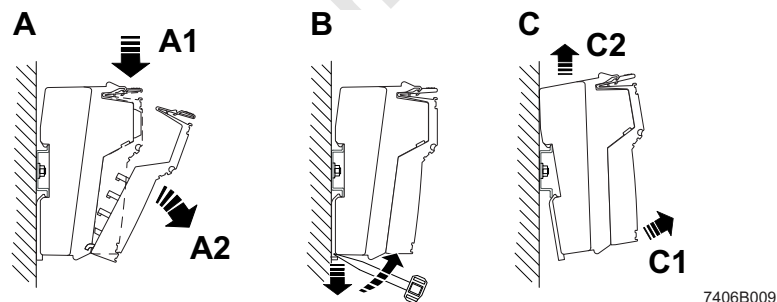

Figure 2-9 Removing the ILC 150 VLC.
- Lever up each connector by pressing on the back connector shaft latching (Figure 2-9, A1).
- Remove the connectors (Figure 2-9, A2).
3. Lever up each connector by pressing on the back connector shaft latching (Figure 2-9, detail A1).
- c. Remove the connectors using the procedure shown in Figure 2-9, detail A2.
4. Insert a tool in the base latches of the Inline Controller, one after the other, and pull gently upward (Figure 2-9, detail B). Remove the ILC 150 VLC from the rail (detail C1, C2).